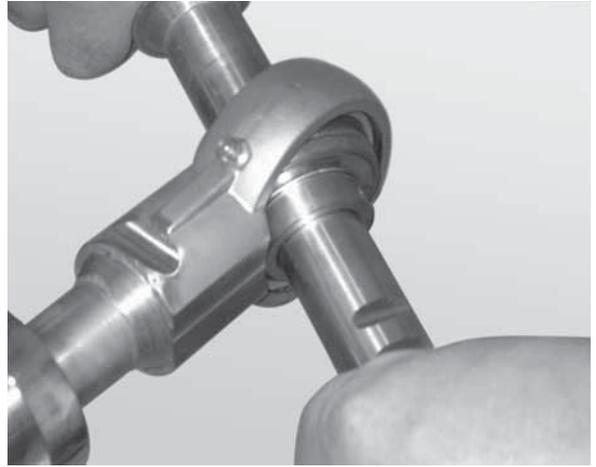

**Figure 90**
5. Use a hex wrench (**Figure 90, item 1**) to tighten the bearing shaft fasteners (**Figure 90, item 2**).